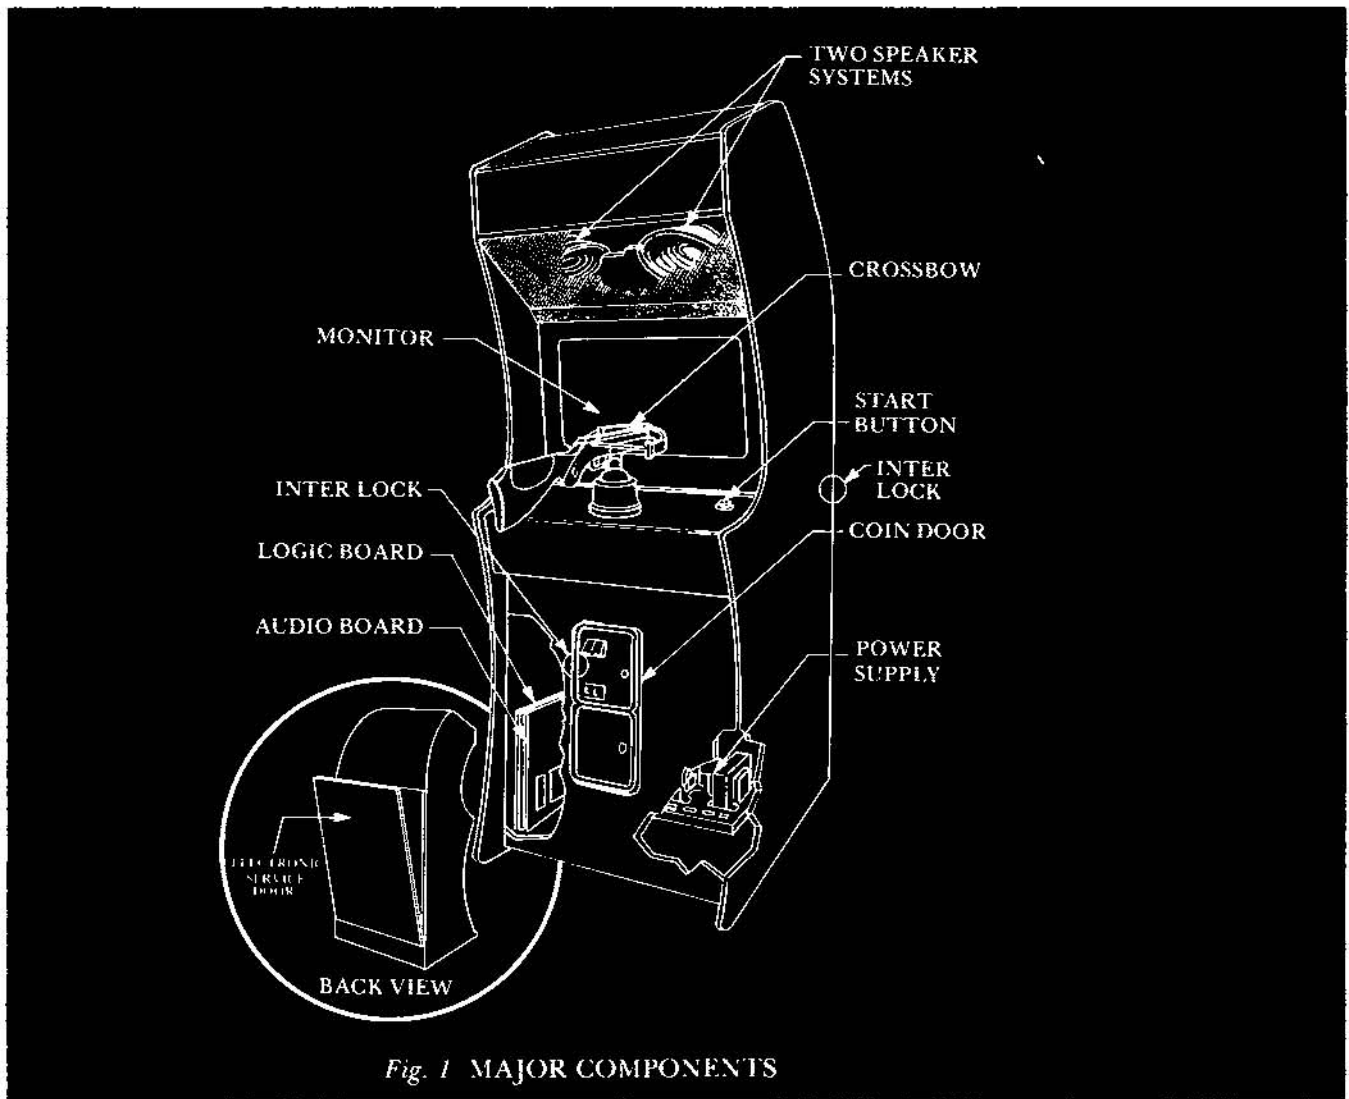

Fig. 1 MAJOR COMPONENTS
The major components of your Crossbow game are illustrated in (See Fig. 1). These major components are the following:
Adjust R15 master audio volume control located at position 12 on the Audio Logic Board (See Fig. 4) and adjust audio level while game is in progress. This audio board rides piggyback on the logic board, mounted inside of the cabinet on the side wall (See Fig. 1).
1. Open the Coin Door to access the AC interlock switch, game will power down (See Fig. 1).